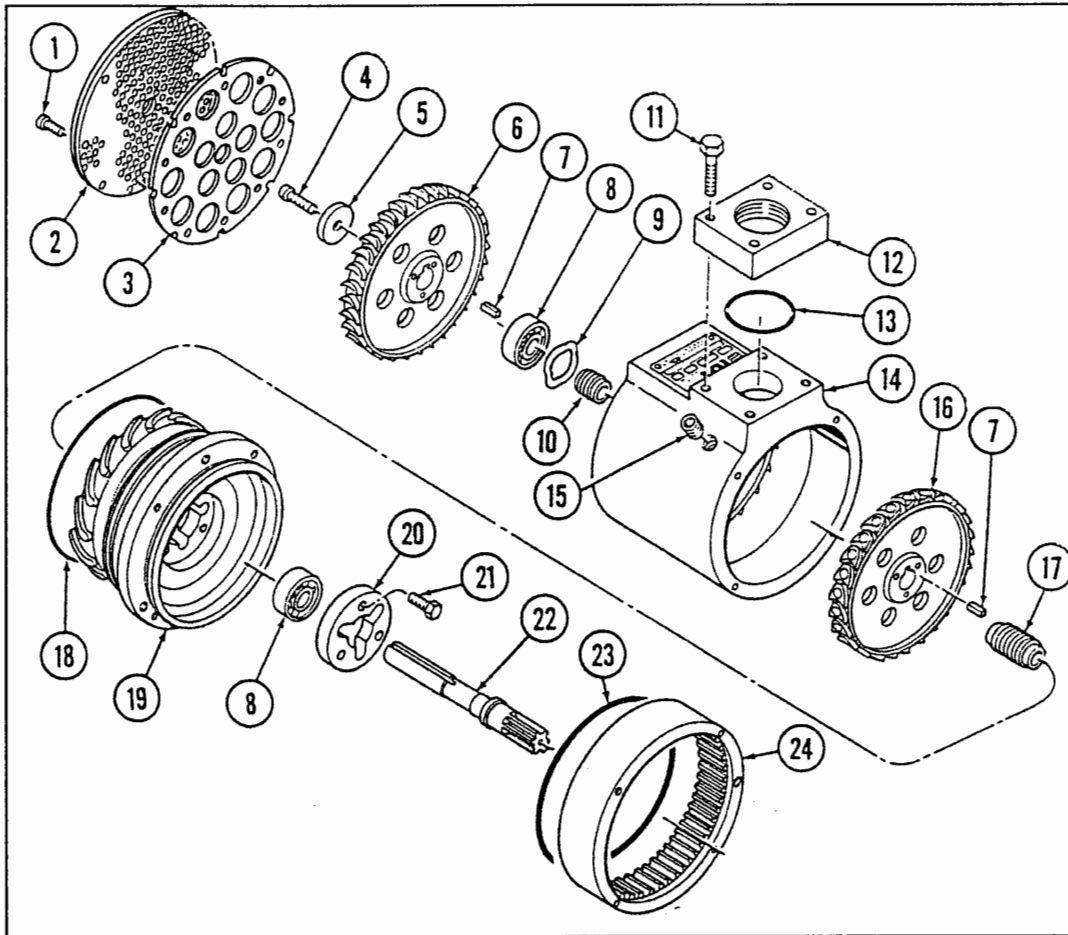

Figure 3. Turbine Housing Assembly
The Turbine housing assembly, refer to figure 3, consists of a stage one (16) and a stage two (6) turbine rotor mounted on sungear shaft (22). The front bearing (8) is secured by a retainer plate (20) and the aft bearing is pre-load by a spring washer (9).